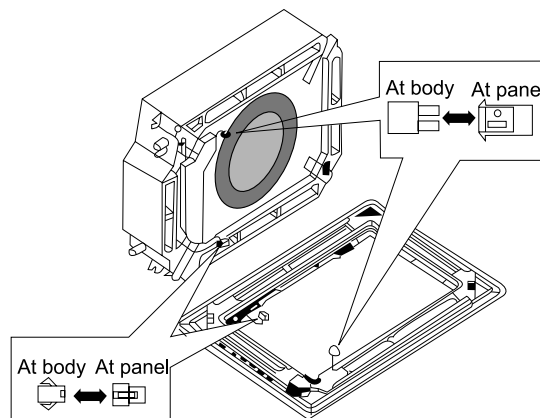

Fig.33
- (4). Wire the swing flap motor as shown in Fig.33.